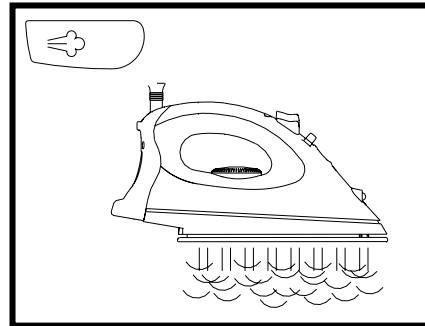

Figure 4
- With the iron in a horizontal position, press the burst of steam button several times to prime the pump. See Figure 4.